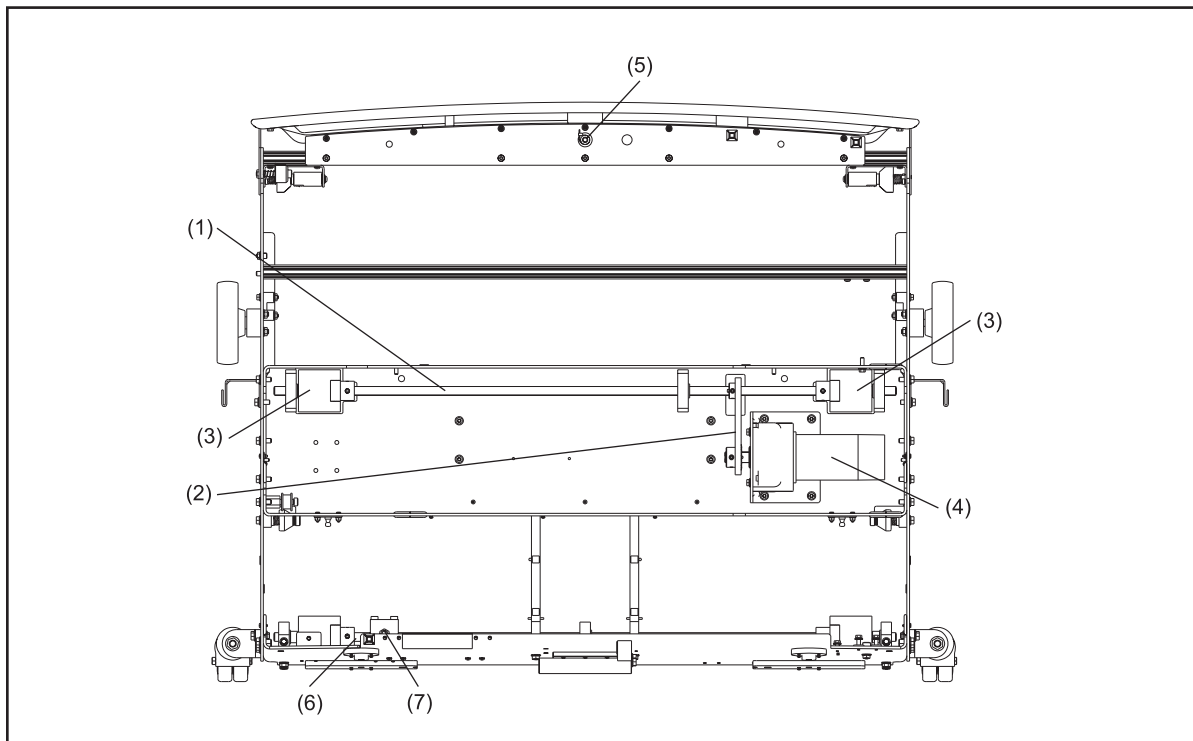

Figure 7-6. Traction Drive System
1. The machine travels up and down the lane by means of a traction drive motor connected through a chain to two drive wheels. Refer to Figure 7-6.